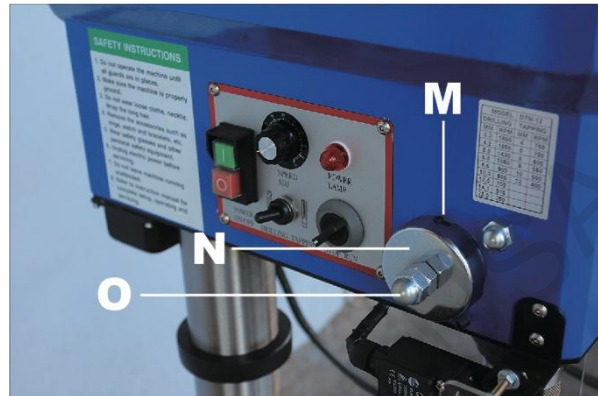

Figure 6-3: Return spring adjustment
The return spring is adjusted by the manufacturer and should not require attention. If adjustment is deemed necessary, follow the steps below while referring to Figure 6-3:
2. Loosen lock nut (O, Fig. 6-3). Do not remove.
3. Firmly hold coil spring cover (N).
4. Pull out cover and rotate until pin (M) on housing engages the next notch in coil spring cover.
The quill return spring should receive SAE 20 oil once yearly. Apply the oil beneath spring cover (N, Fig. 6-3) using a squirt can.